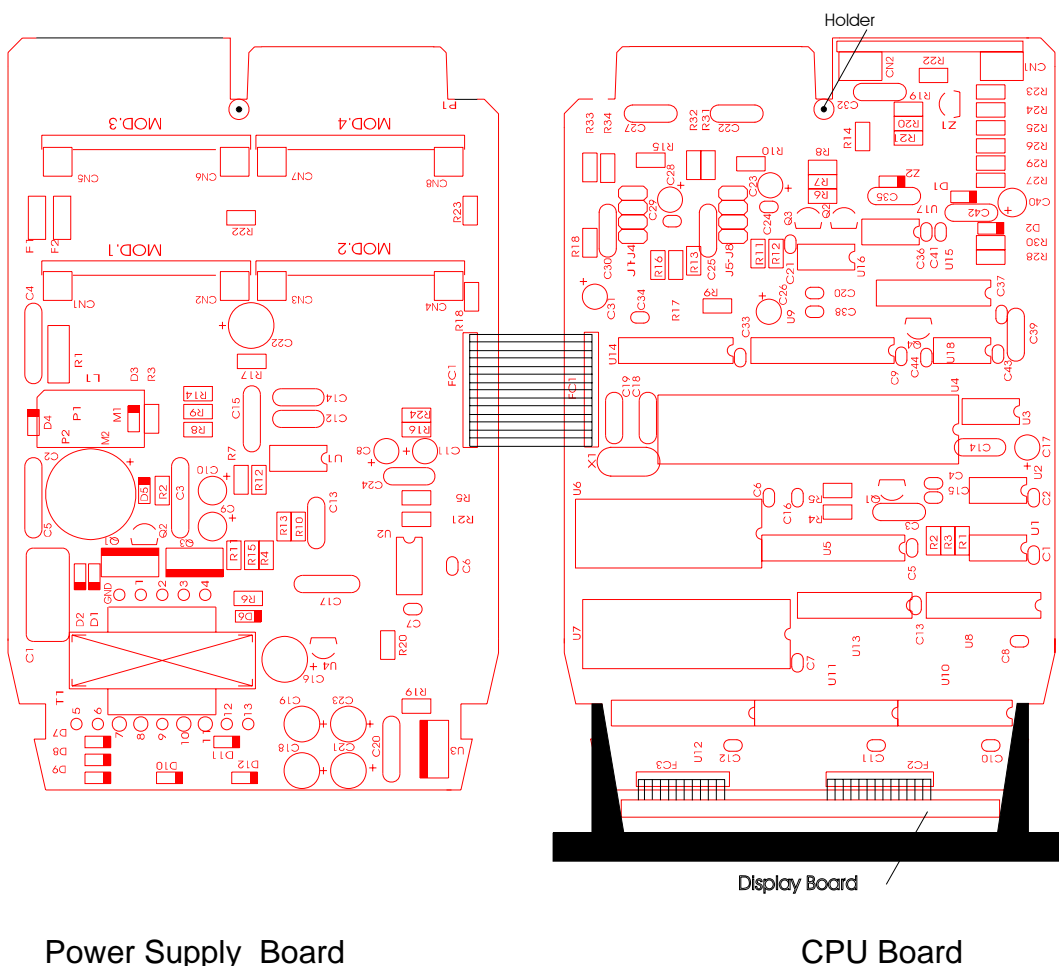

Figure 19 - Indicator Hardware
- iv) Move the top-board to the right and open the boards according to Figure 19.